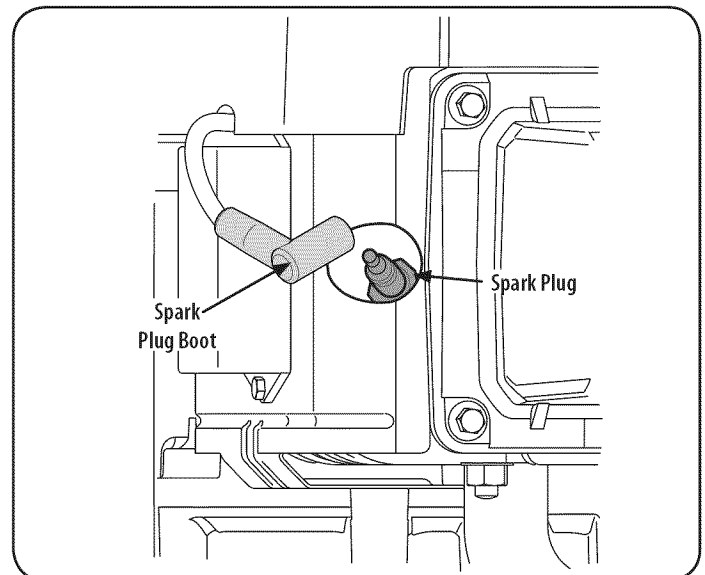

Figure 27
- Remove the spark plug boot and use a spark plug wrench to remove the plug, see Figure 27.